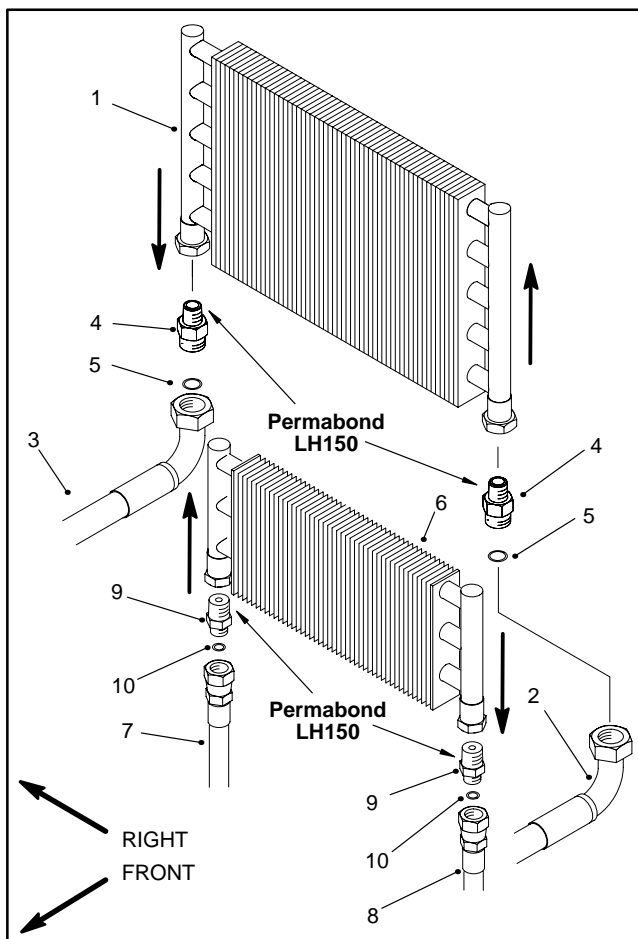

Figure 103
1. If removed, apply PermaBond LH150 or equivalent to the hydraulic straight fitting threads before installing into cooler/heat exchanger (Fig. 103). Reconnect the hydraulic hoses.